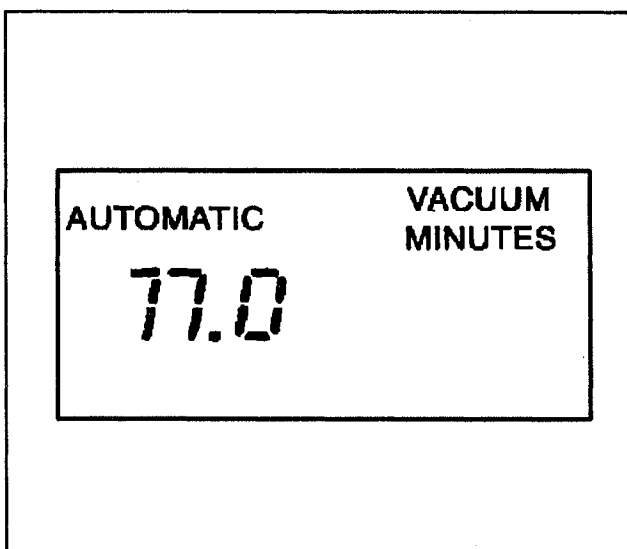

Figure 22—Stopping Evacuation at 17 Minutes
- 4. At approximately the 17 minute mark on the display, (pump has run for 3 minutes) press "HOLD/CONT" key to stop vacuum pump (Figure 22).